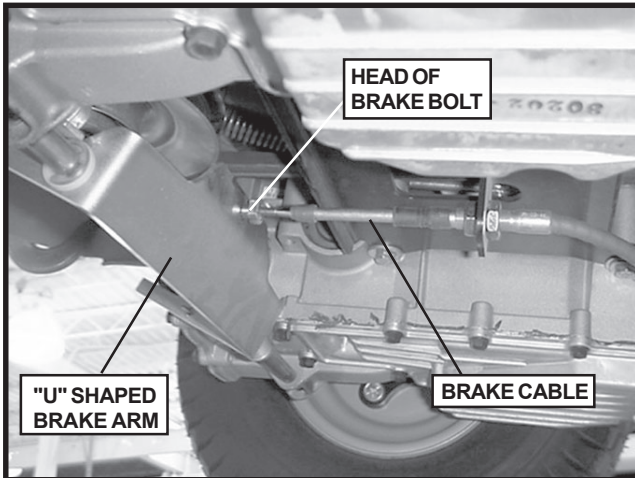

FIGURE 21
- 1/4" gap should exist between the "U" shaped brake arm and the inside of the brake bolt head. See Fig. 21.